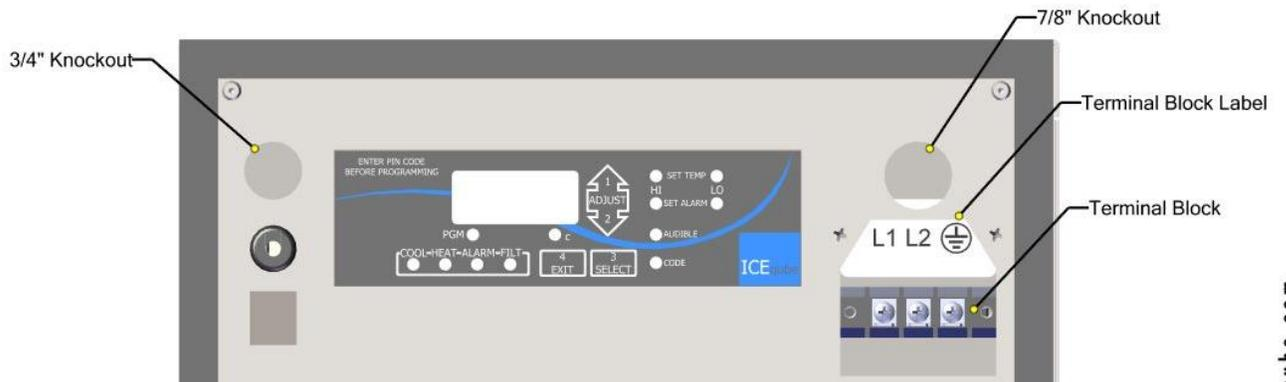

Figure 4: Terminal Block
4. *Figure 4: Terminal Block pg:9*)